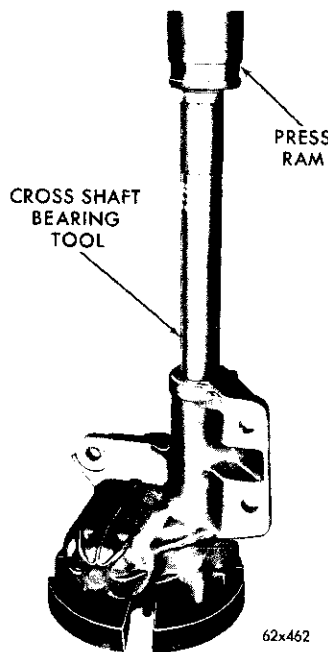

Fig. 7—Removing Cross Shaft Inner and Outer Bearings
(10) Remove the cross shaft needle bearing by placing the steering gear housing in an arbor press; insert Tool C-3786 in lower end of housing (Fig. 7) and press both bearings through the housing.